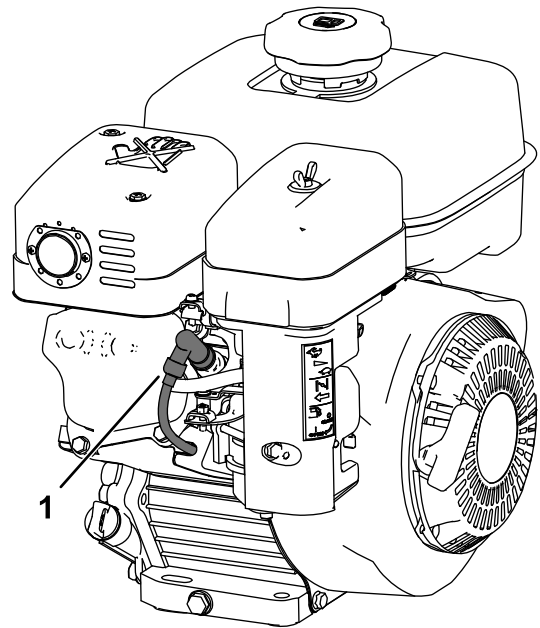

Figure 11
5. Disconnect the spark-plug wire (Figure 11).